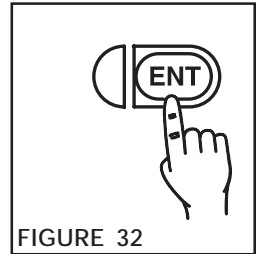

FIGURE 32
2. Press the **ENT**er Key to store the new value into memory (See Figure 32).